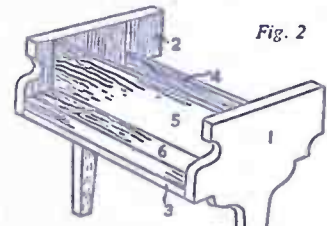
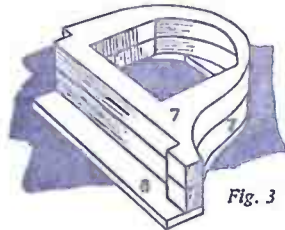
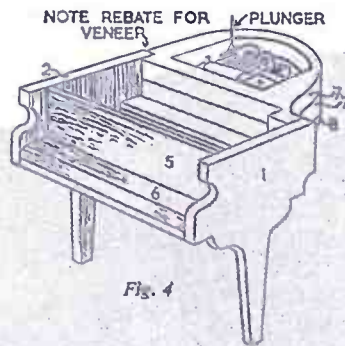

Fig. 2
Fig. 3
Fig. 4
and in all cases glue only is used throughout. There is no need for pinning on a model of this type. Now add pieces (1) and (2) as seen in Fig. 2. The portion which accommodates the musical movement is made up next, consisting of pieces 7 and 8 as shown in Fig. 3.
The sections thus far completed as seen in Figs. 2 and 3 are now glued together to complete the assembly as shown in Fig. 4. Note that the rounded portions of pieces (7) are set back slightly from piece 2 to allow for the addition later of a veneer.
Fig. 4 also shows the musical movement in position. The movement is screwed to piece (9) with the winder spindle projecting through the hole provided. Dotted lines on piece (9) (seen on the design sheet) show the approximate position of the movement. Piece (9) is now screwed to piece (7) and the underside view is shown in Fig. 5. Make sure that the movement is located so as to give easy and trouble-free working.
Bend the arm of the stop mechanism across the musical movement (Fig. 4), and fit the plunger, which is made from a piece of wire. The loop of this is slipped over the end of the arm as shown, and